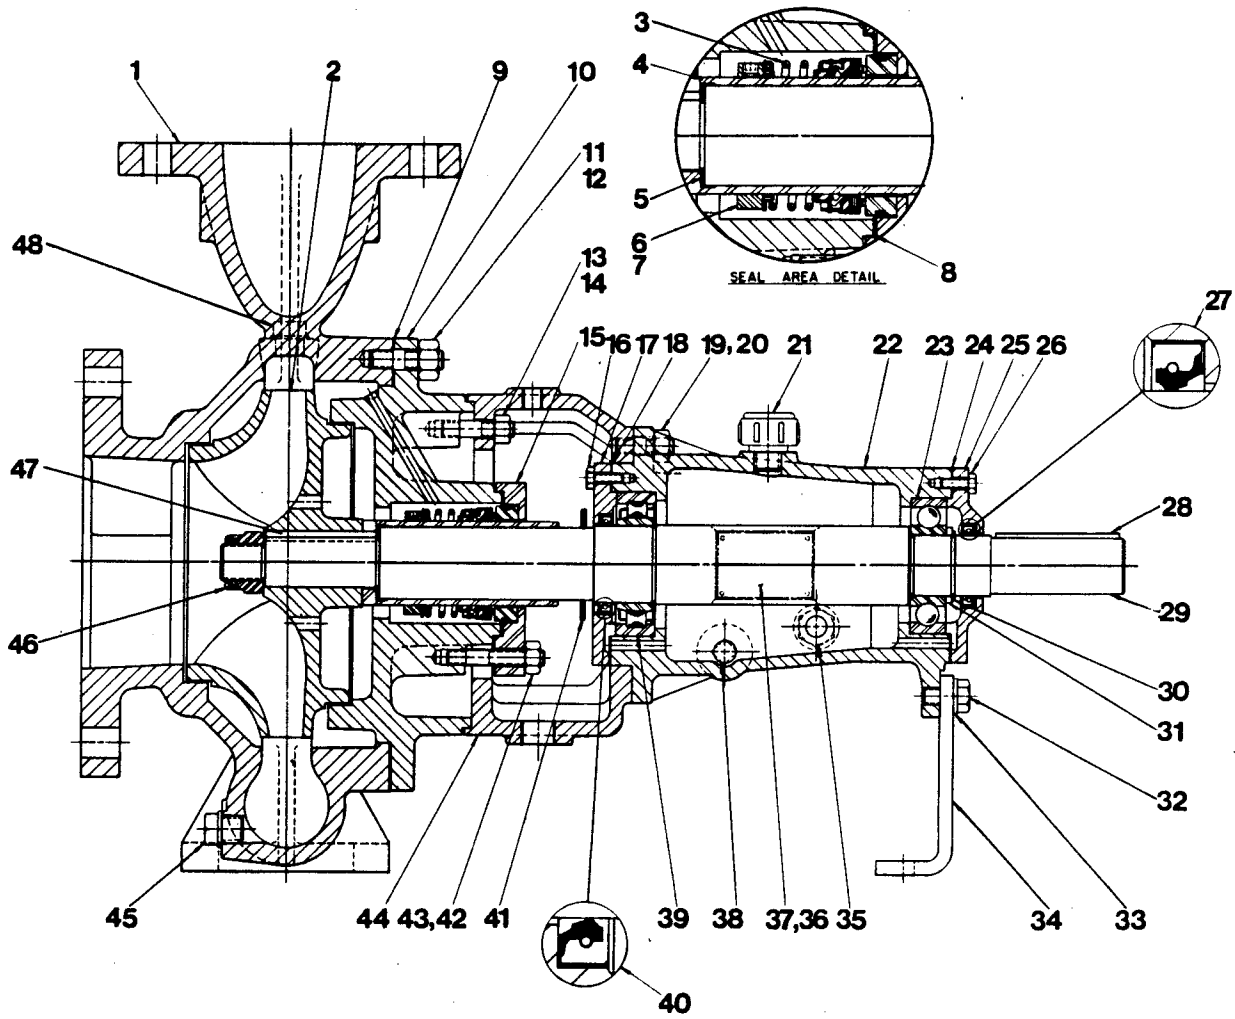

Figure 1. Pump Model VG6E3-B
This pump requires little service due to its rugged, minimum-maintenance design. However, if it becomes necessary to inspect or replace the wearing parts, follow these instructions which are keyed to the sectional view (see Figure 1) and the accompanying parts list.
Press the oil seals (27 and 40) into the bearing caps (17 and 25) with the lips positioned as shown in Figure 1. Align the oil passage in the outboard bearing cap with the oil passage in the bearing housing and secure the cap and gasket (24) to the bearing housing with the capscrews (26). Be careful not to damage the lip of the oil seal (27) on the shaft keyway.